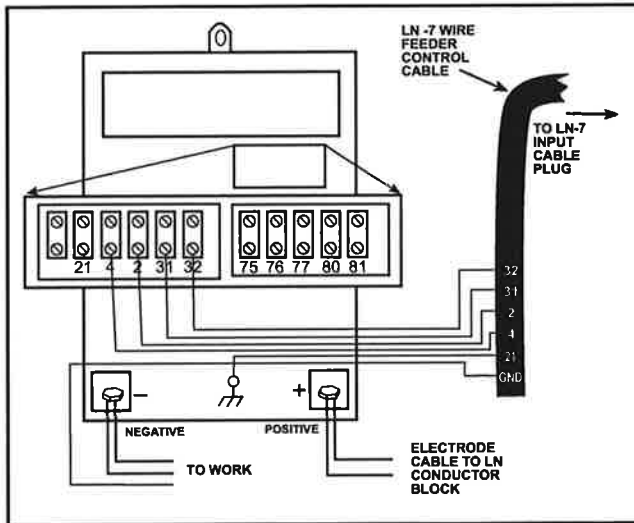

FIGURE C.8 - LN-7 WIRE FEEDER CONNECTION TO THE IDEALARC DC-600
3. Connect the wire feeder control cable leads to the IDEALARC DC-600 terminal strip as shown in Figure C.8.
NOTE: The connection diagram shown in Figure C.8 shows the electrode connected for positive polarity. To change polarity: